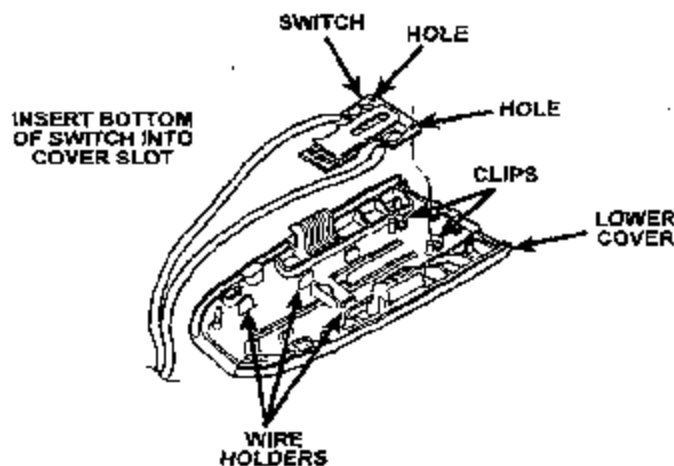

Figure 13
19. **Driver's Side Buckle Only:** Install the original seat belt switch into the provided lower cover. Insert the bottom of the switch into the lower cover slot and then press the top of the switch into place under the two clips (Figure 13). Secure the switch wires in the lower cover wire holders.